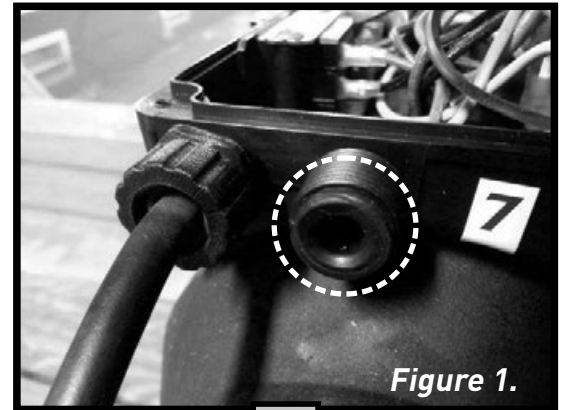

Figure 1.
3. Undo the blank gland nut next to the power cord entry as shown in **Figure 1**.